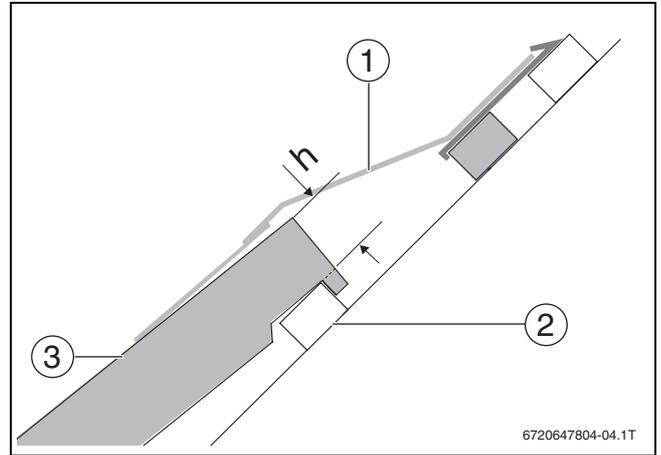

Fig. 26 Dimension h
- ▶ Ensure that the roof cover does not exceed the maximum permissible value (→ Fig. 26 and table 18, dimension h).